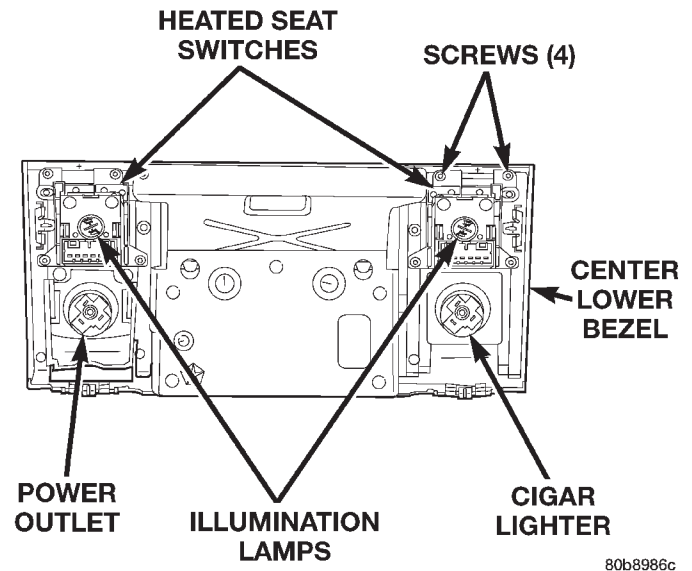

Fig. 2 Heated Seat Switch Remove/Install
(1) Disconnect and isolate the battery negative cable.
(2) Remove the center lower bezel from the instrument panel. Refer to **Instrument Panel Center Lower Bezel** in the Removal and Installation section of Group 8E - Instrument Panel Systems for the procedures.
(3) Remove the four screws that secure the heated seat switch to the back of the instrument panel center lower bezel (Fig. 2).